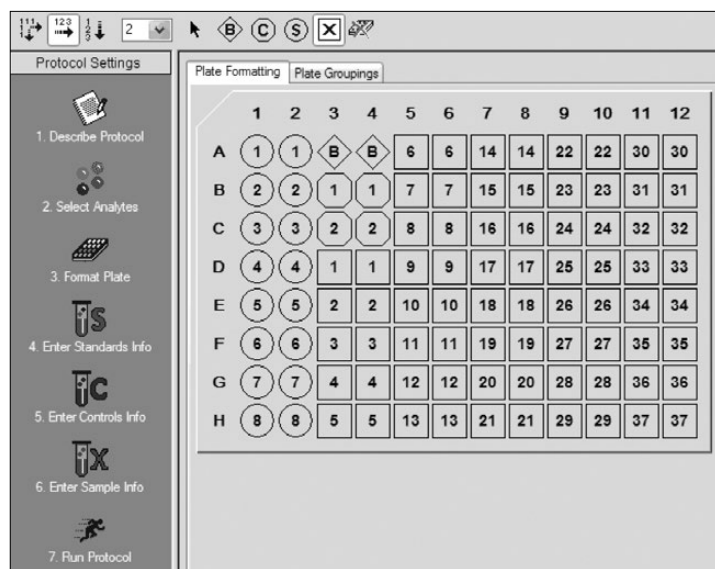

Fig. 7. Plate formatting.
3. Click **Format Plate** and format the plate according to the plate layout created in Section 1 (Plan Plate Layout). To modify the plate layout, follow the steps below (see Figure 7).
- b. Select the standards icon (S), and drag the cursor over all the wells that contain standards. Repeat this process for blanks (B), controls (C), and samples (X).